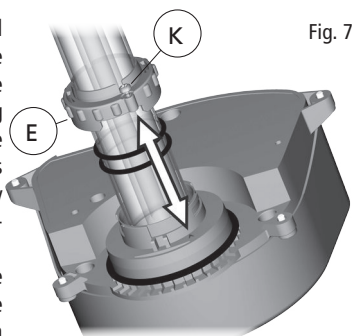
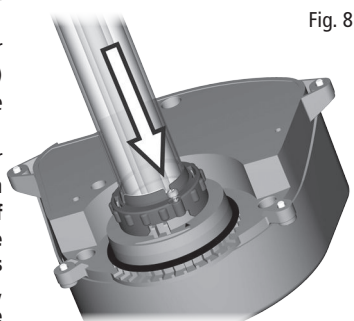
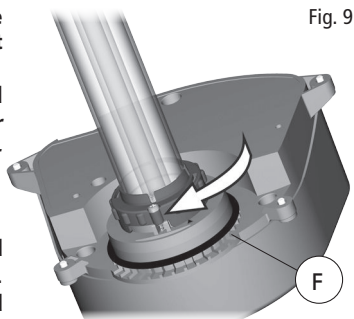

Fig. 7
Fig. 8
Fig. 9
5. At this stage it is possible to clean the quartz sleeve (C), if required. **To clean the quartz sleeve, use a damp soft cloth to wipe away limescale and debris. In case of stubborn dirt, some vinegar may be used. Do not use detergents or other chemical cleaners. If it is not necessary to change the UV-C lamp, go straight to point #10.**
6. To access the UV-C lamp (B), remove the Quartz Sleeve (C) by first unscrewing, about 3 turns, the security screw (K) of the Retaining Flange (E) that fasten it to the UV-C head. Afterwards turn the Retaining Flange approx 30 deg counterclockwise until the screw is aligned with the arrow present in the UV-C head and pull to disengage it from its place. Important: the Retaining Flange is equipped with one anti-loss safety screw. There is no need to remove the screw completely. Just unscrew the screw until the Retaining Flange is free to be turned and disengaged from its position.
8. Once the Quartz Sleeve is removed, pull out the UV-C lamp (B) away from the lamp holder (if it is not the first start-up) and replace it with a new one. **WARNING - DO NOT ATTEMPT TO VIEW THE LAMP WHEN LIT!** Direct exposure to ultraviolet light can damage eyes and skin. Do not test the UV-C lamp unless the filter is fully assembled and closed. **IMPORTANT** – Use original Laguna spare parts only. Refer to the Spare Parts List for correct part number identification.
9. Place the Quartz Sleeve (C) and the two O-rings (D) back in their original position. It is recommended to lubricate the O-Rings with an appropriate lubricant. **IMPORTANT** – The Lamp Damper (Y) inside the quartz sleeve must be between the lamp and the bottom of the quartz sleeve. Do not remove it. **IMPORTANT** – **The two O-rings (D) of the quartz sleeve (C) must be replaced every time the unit is opened.**
10. Place the retaining flange (E) in its original position. Simply align the screw with the arrow and press the flange towards the UV-C head, then turn the Retaining Flange approx 30 deg clockwise in the direction the security screw (K). At this time fasten the Retaining Flange by screwing the security screw (K) (Fig. 7 - Fig. 8 - Fig. 9).